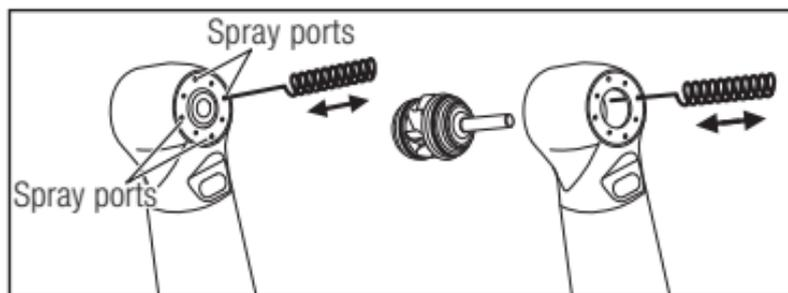

Fig. 26
- 1 When spray ports are clogged, or spray does not exit evenly from the ports, clean the ports (Fig. 26).